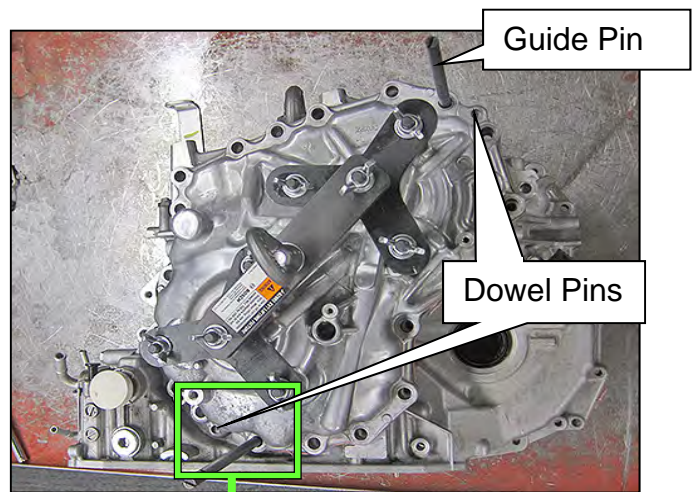
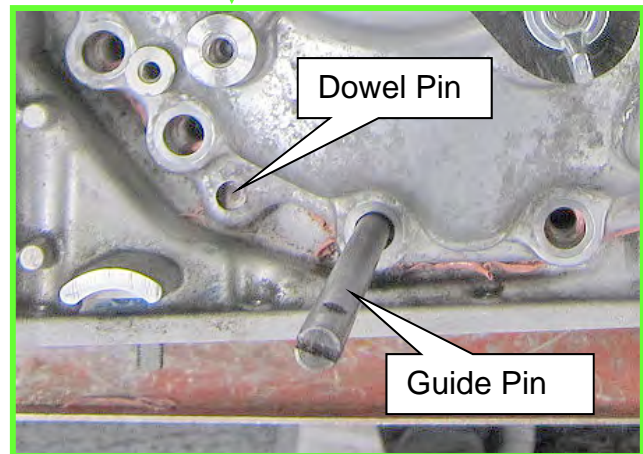

Figure 78
Figure 79
60. Install the two CVT Assembly Guide Pins (J-51959 - Guide Pins) as shown in Figure 78 and Figure 79.